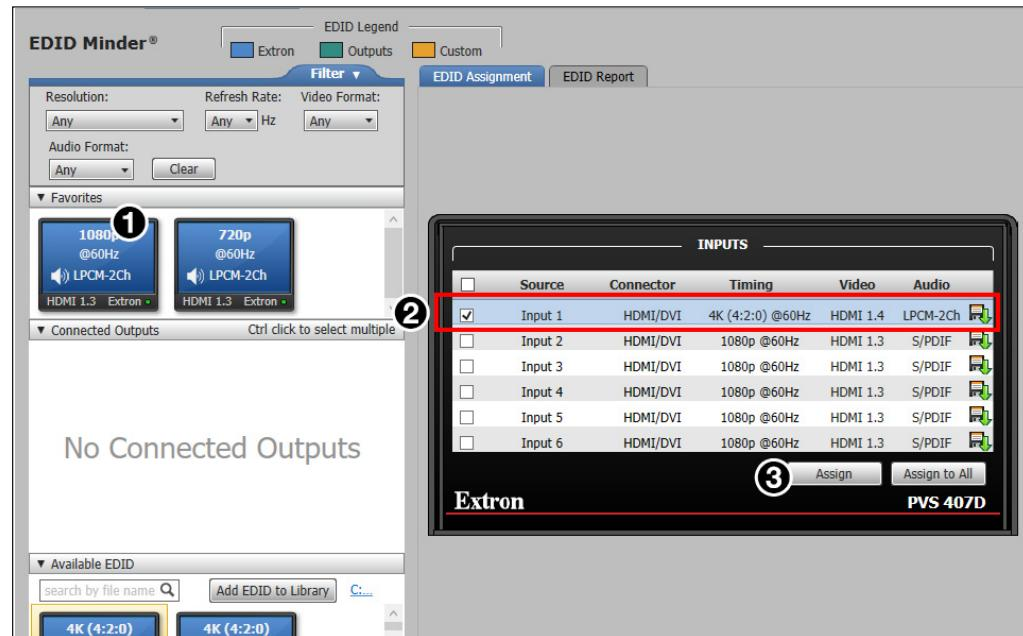

Figure 33. Assigning EDIDs
1. From the table, select an available EDID (1) (represented by a blue, green, or yellow output display icon) (see figure 33).
2. From the inputs screen (table of inputs) on the right, select the desired input or inputs (2).
3. Click the **Assign** button (3) to assign EDID to the selected input or inputs.